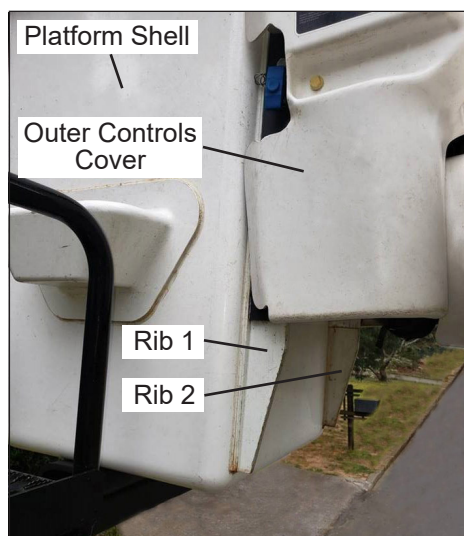
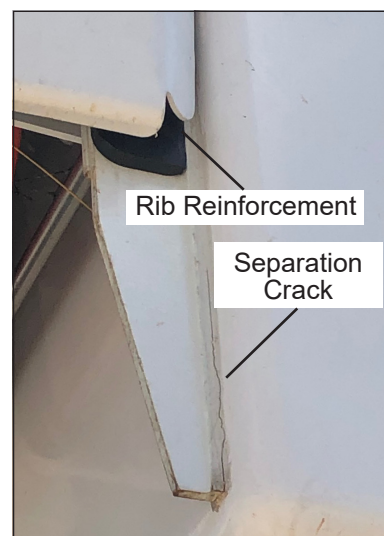

Figure 1 — Platform
Figure 2 — Separation Crack
3. Visually inspect the platform ribs where they attach to the outside of the platform shell near the bottom of the platform without removing the outer controls cover (refer to Figure 1). Inspect the outboard side and inboard side edges of both ribs for separation cracks between the rib structure and the platform shell (refer to Figure 2).